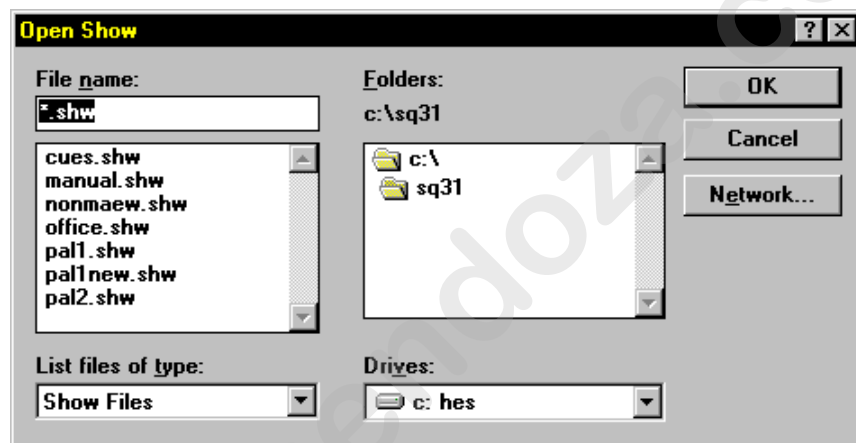

Figure 9.4. Open Show Dialogue Box
2. Press the <STORE> key in the MEMORY key group. If the Show has not been previously saved, this will bring up the **Save Show As...** dialogue box. Refer to Figure 9.4. Alternately, select **Save** from the **File** drop-down menu.
2. Press the <RECALL> key in the MEMORY key group to bring up the **Open Show** dialogue box. Refer to Figure 9.4. Alternately, select **Recall** from the **Memory** drop-down menu or simply select **Open** from the **File** drop-down menu.